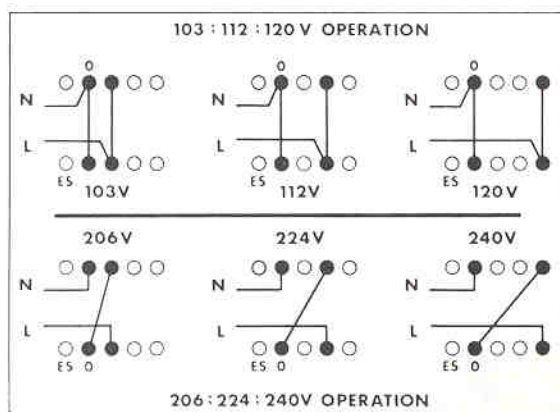

Fig. 2 Transformer tap connections
All power supplies are derived from transformer T1. The primary winding can be connected to accept six supply voltage ranges, as shown in fig. 2, on the inside of the top cover.
DISCONNECT THE INSTRUMENT FROM THE SUPPLY BEFORE ADJUSTING THE TRANSFORMER TAPS. The transformer tap connections for each of the normal supply voltages are shown in fig 2 below. This diagram is reproduced inside the top cover of the instrument. It will be seen that the two tapped primary windings are connected in series or parallel as necessary. The 'line' is the brown lead from the fuse and the 'neutral' is blue. Check that the correct fuse is fitted for the supply in use.
- (b) With the transformer connected for 222 to 260V operation, connect the instrument to the A.C. supply via a variable autotransformer, and set the voltage to 240V ± 1%. If the supply transformer is not connected for 222 to 260V operation, the test should be carried out with the supply within 1% of the nominal voltage shown in fig. 2.